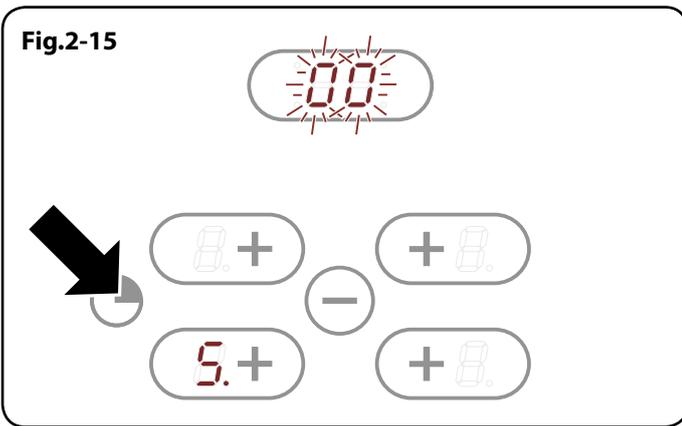

Fig.2-16
3. Set the required cooking duration by pressing the timer key to increase the cooking time and the '-' key to reduce the cooking time (Fig.2-16).